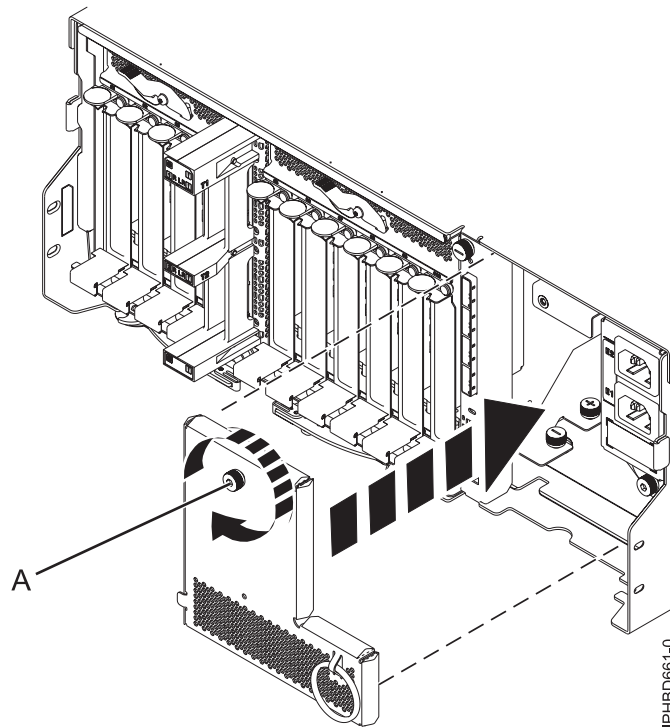

Figure 32. Replacing an input power distribution assembly cover
6. Replace the input power distribution assembly cover, and then tighten the thumbscrew (A) as shown in Figure 32.